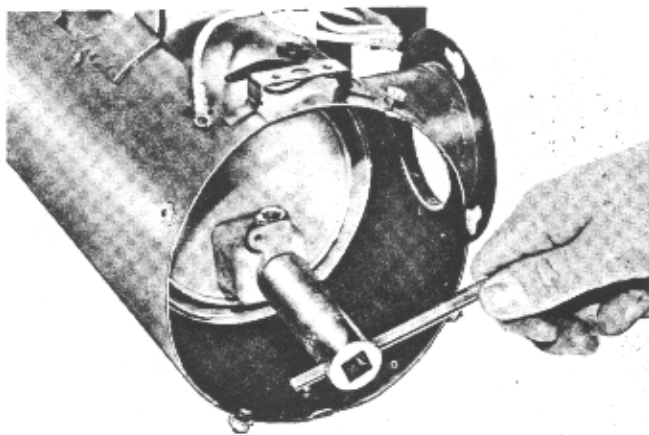

Figure 43
3. Using a 13/16" deep socket, remove igniter from housing (Figure 43).